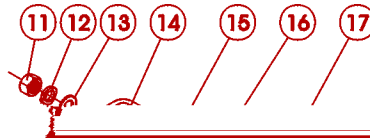

FIGURE 1
Attach the rear brace bars (18) to the lugs on the rear of the deck with m12 x 40mm bolts (19), m12 flatwasher (20), m12 lockwasher (21), & m12 locknuts (22). Attach the A-Frame bars (2) to the lugs on the front of the deck with the same hardware as the rear. Attach the other end of the A-Frame bars at the top and outside the rear brace bars (18) and top link (14) with 3/4" x 5-1/2" bolt (17), bushing (15) & 3/4" nut (11). Top link pin (16) is placed through the open end set of holes of the top link and secured with hair clip pin. See **Figure 1**.